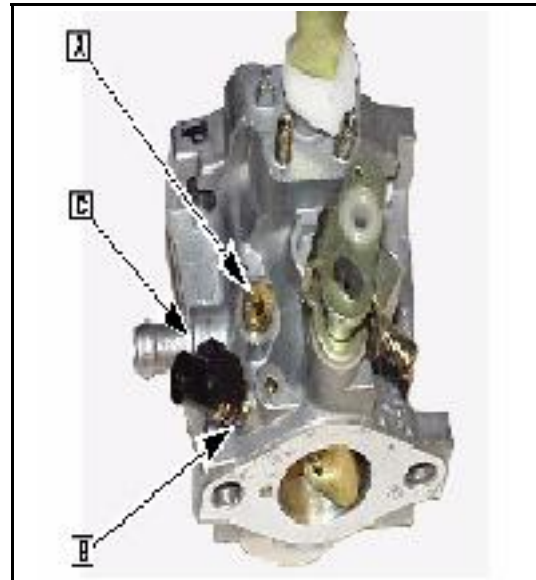

Fig. 43
10. Install pilot jet ([A] Fig. 43).
11. Install idle mixture screw ([B] Fig. 43) and spring.
14. Install limiter ([C] Fig. 43) if used.